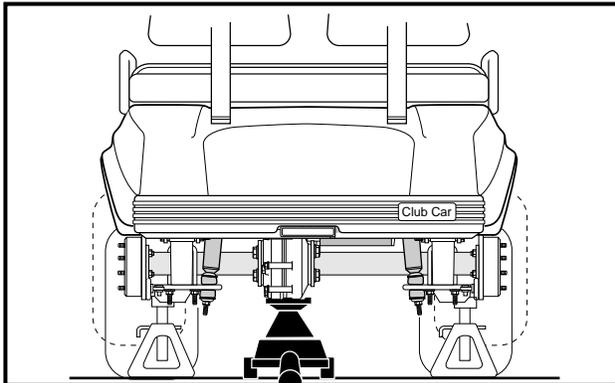
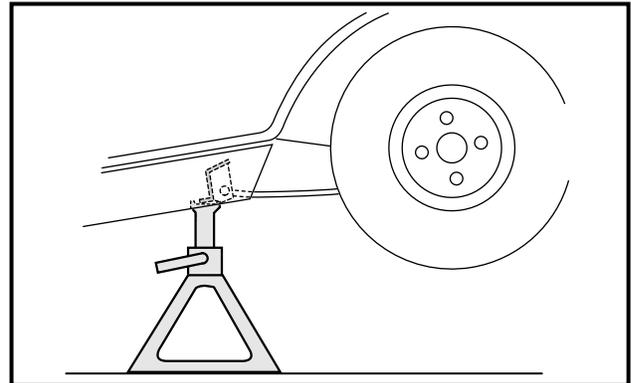

Figure 15-3 Support Transaxle on Floor Jack
Figure 15-4 Support Vehicle on Jackstands
3. Place floor jack under transaxle and raise rear of vehicle (**Figure 15-3, Page 15-3**) then place jackstands under frame cross-member between spring mount and side stringer, just forward of each rear wheel. Lower the vehicle to let jackstands support vehicle (**Figure 15-4, Page 15-3**). **See following WARNING.**